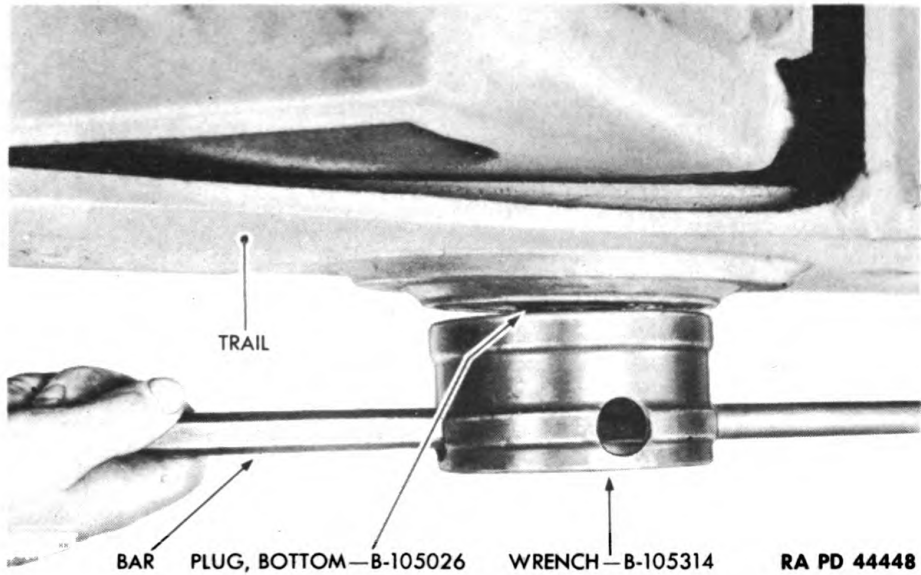

Figure 57—Removing Trail Hinge Pin Bottom Plug
d. Remove bottom plug B105026 with trail hinge pin socket wrench B105314 and small pinch bar (fig. 57).